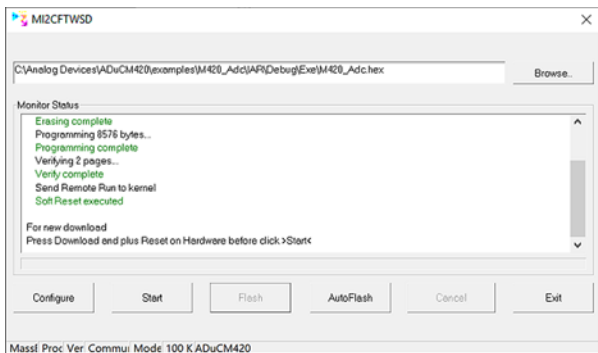

Figure 23. Complete Mass Erase
- After I2C connection is established. Click the **Run** button and it automatically flashes the device and either mass erases or downloads the program, depending on the configuration that the user selected in Step 4. Figure 23 shows an example of a complete mass erase on the device.